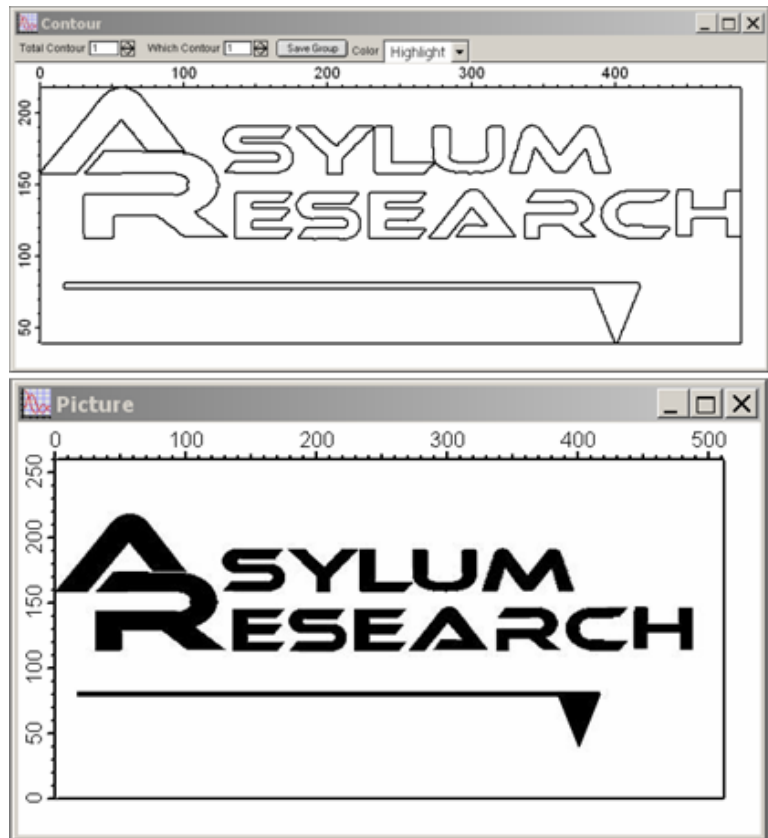

Figure 10.7: Contour & Picture windows.
- The image loads and Igor immediately makes a 'Contour' of the image. Figure 10.7 shows the results of loading the AR logo.